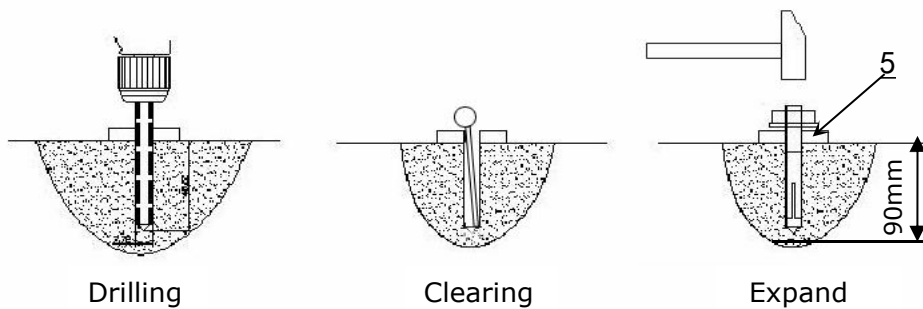

Fig. 17
2. Using the prescribed rotary hammer drill, and drill all the anchor holes and install the anchor bolts. Do not tighten the anchor bolts (**See Fig. 17**).